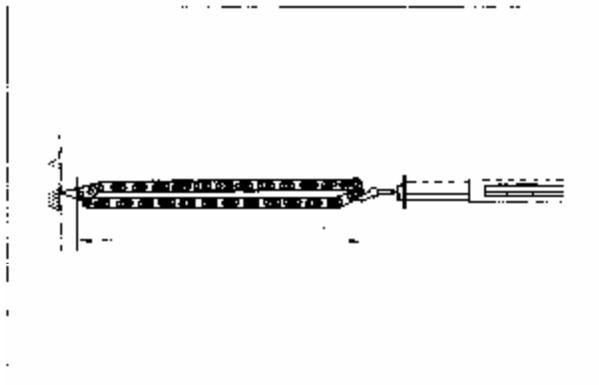

Figure 3-40 Check Timing Chain Length
**3.4.5** Check length of timing chain. Using a spring scales( Figure 3-40) to pull (49N) the chain. The maximum chain length is 291.4mm. Select 3~4 measurement points at random to measure. If chain length exceeds the maximum value, chain should be replaced.